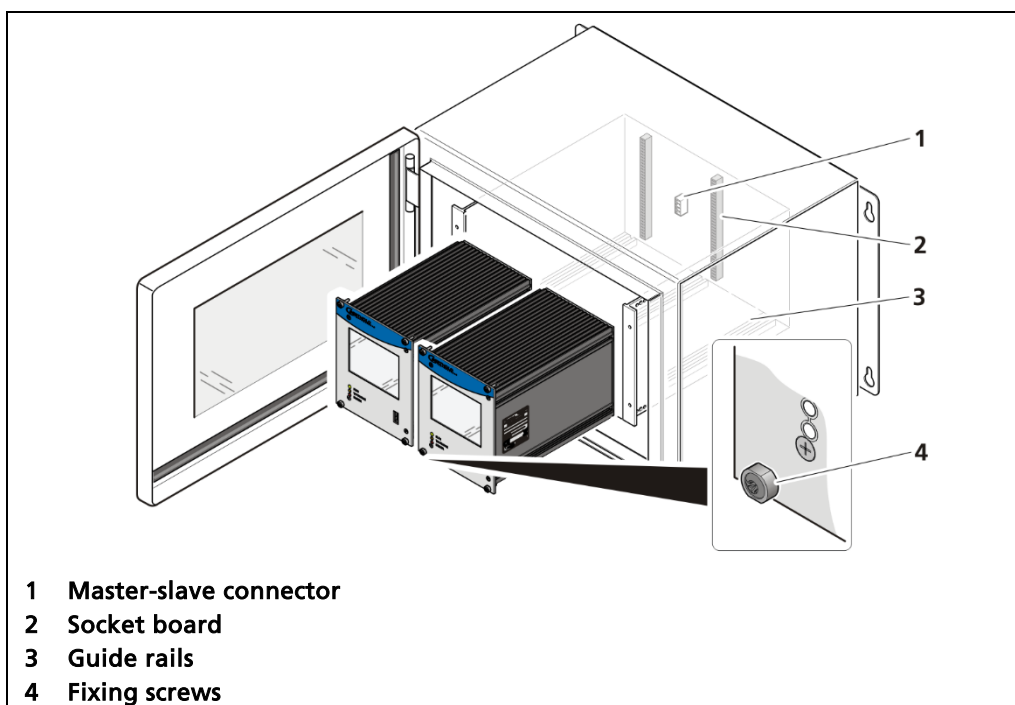

Fig. 12 Installation of the modules (master-master)
1. Set modules into the guide rails and push it gently until the plug connector of the module (Fig. 12, item 2) is inserted into the socket board.
2. Tighten all fixing screws (Fig. 12, item 4).